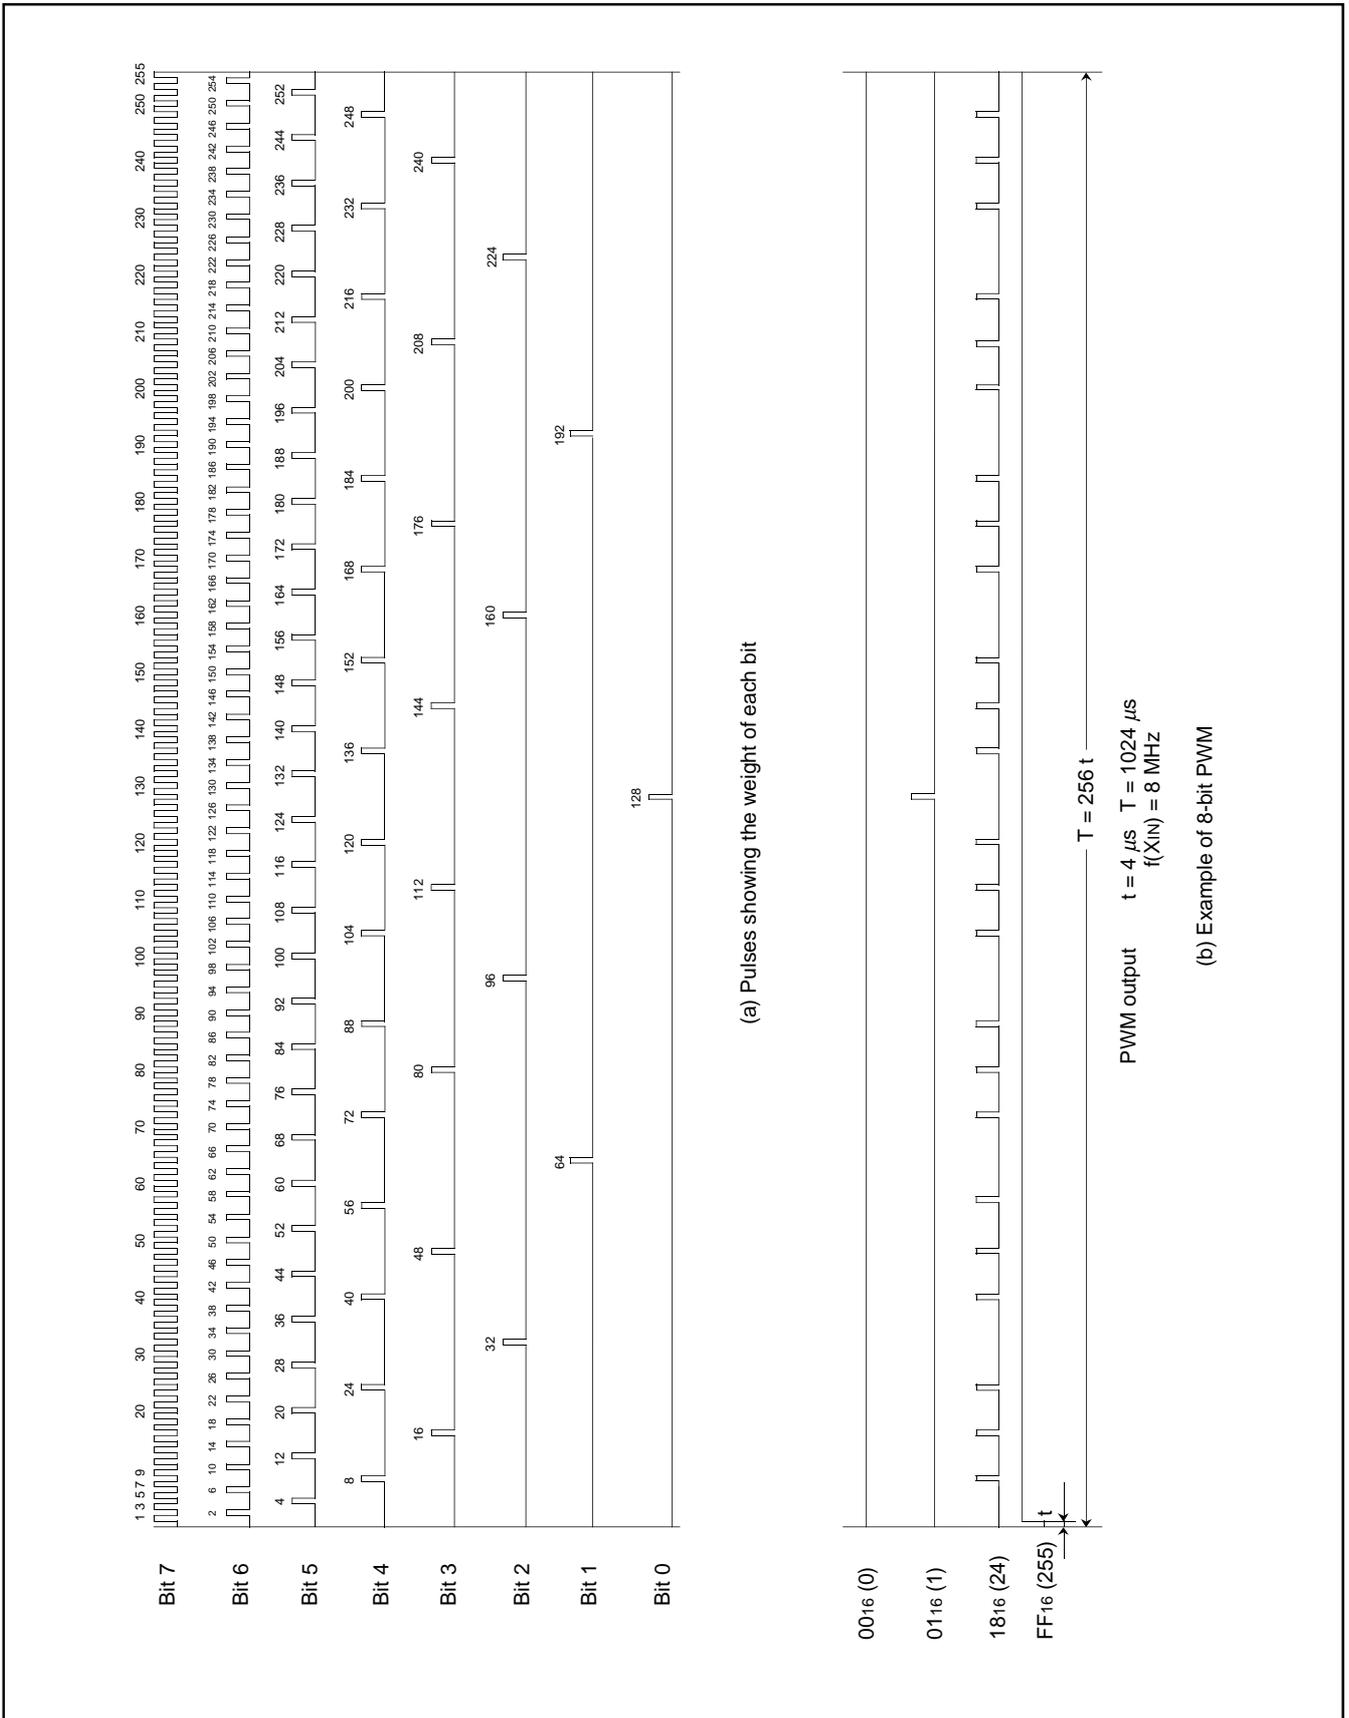

Fig. 16. 8-bit PWM timing
Figure 16 shows the 8-bit PWM timing. One cycle ( $T$ ) is composed of 256 ( $2^8$ ) segments. The 8 kinds of pulses relative to the weight of each bit (bits 0 to 7) are output inside the circuit during 1 cycle. Refer to Figure 16 (a). The 8-bit PWM outputs waveform which is the logical sum (OR) of pulses corresponding to the contents of bits 0 to 7 of the 8-bit PWM register. Several examples are shown in Figure 16 (b). 256 kinds of output (“H” level area: 0/256 to 255/256) are selected by changing the contents of the PWM register. A length of entirely “H” output cannot be output, i.e. 256/256.